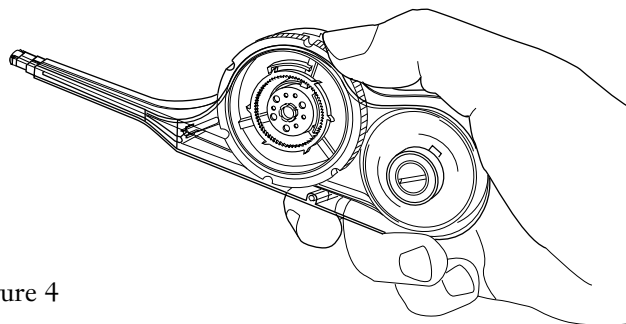

Figure 4
5.2 To clean the MTP connector and adapters, use the MTP cleaning tool (p/n 2104466-01) provided in the Plug & Play Cleaning Kit (p/n TKT-PNP) (Figure 4).